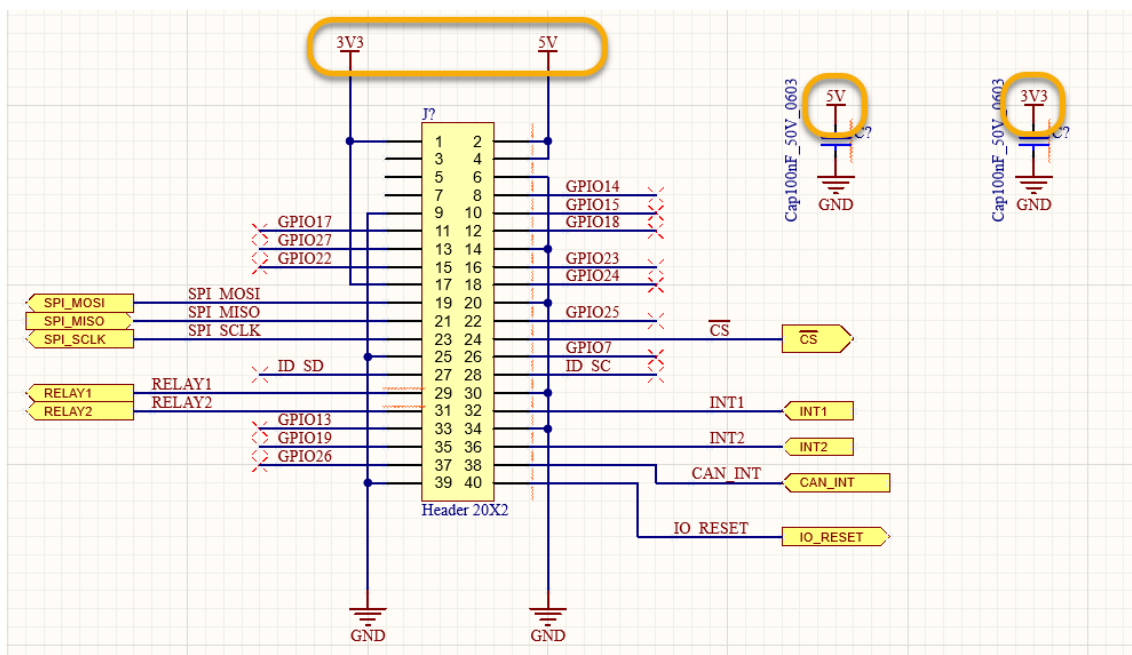

Figure 16. Header J4 with Power Ports
- Press **Enter** or click on the Pause symbol (II) to continue the placement of the Power Port.
- Repeat the process above and place the Power Port **5V** on the connections on **Pin 2** and **Pin 4**, and the remaining capacitor. When complete, the schematic should look similar to Figure 16.